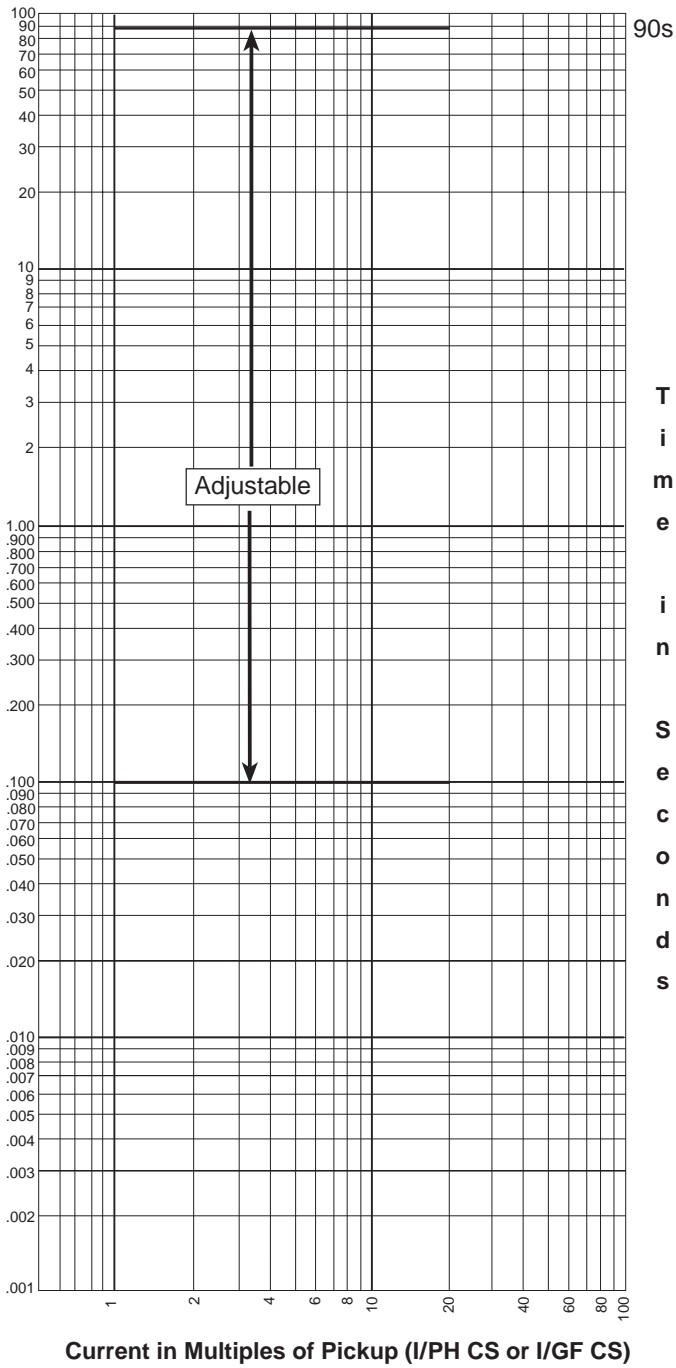

Figure 57: Definite time (DT) curve
- DT: definite time curve (figure 57, page 53)